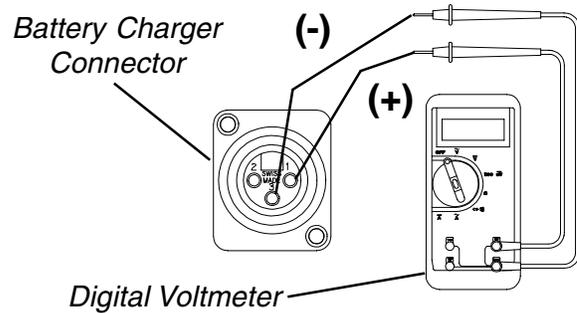

FIGURE 1 - FIELD LOAD TEST
**FIELD LOAD TEST (FIGURE 1)**